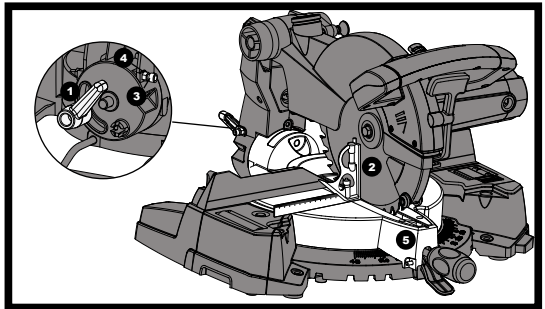

Fig 17
- 1) Loosen bevel lock handle (1) and rotate the cutting arm completely to the right until it stops against the vertical stop. Tighten the bevel lock handle.
- 2) Place a combination square (2) on the mitre table with the ruler against the table and the heel of the square against the saw blade.
- 3) If the blade is not 90° (0°) square with the mitre table (5), loosen the bevel lock handle (1), tilt the cutting head to the left, loosen the locknut (4) on the bevel angle adjustment bolt (3) and use an hex key to adjust the socket headed stop bolt (3) depth in or out to increase or decrease the bevel angle.
- 6) Tighten bevel lock handle (1) and locknut (4) when alignment is achieved. (See fig. 17)